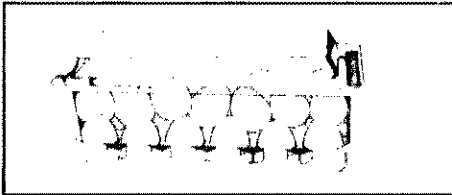

FIGURE 36
**Egg Storage.** A removable take-to-counter egg bucket, stores eggs in a see-thru covered container. See Figure 36. To clean, hand wash in warm, soapy water.